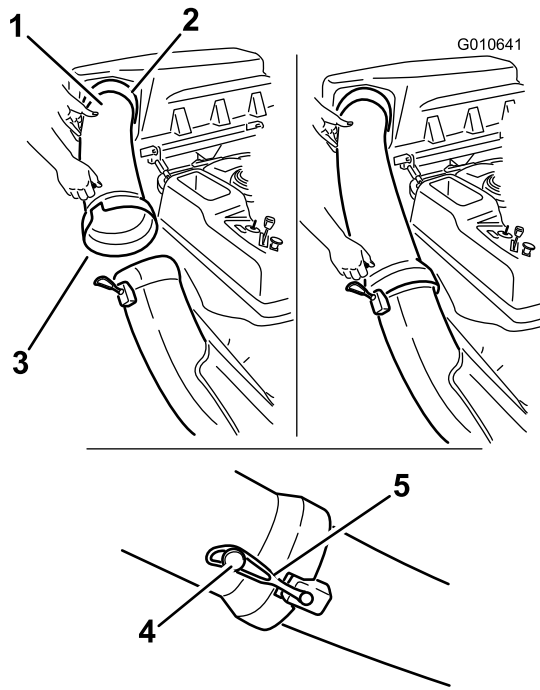

Figure 29
- Slide the curved end of the discharge tube into the opening in the bagger top (Figure 29).
- Slide the flared end of the discharge tube over the end of the chute. Move the rubber retaining strap on the chute snaps over the peg on the discharge tube to secure it (Figure 29).